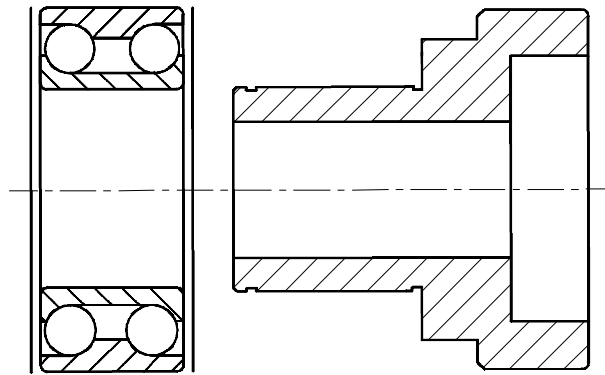

Figure 16-9 After loading the drawing SHAFT, BEARING is automatically updated
4. Load the drawing SHAFT (Figure 16-9) on the screen. You will notice that the xref drawing BEARING is automatically updated. This is the most useful feature of the **XREF** command. You could also have inserted the BEARING drawing as a block, but if you had updated the BEARING drawing, the drawing in which it was inserted would not have been updated automatically.